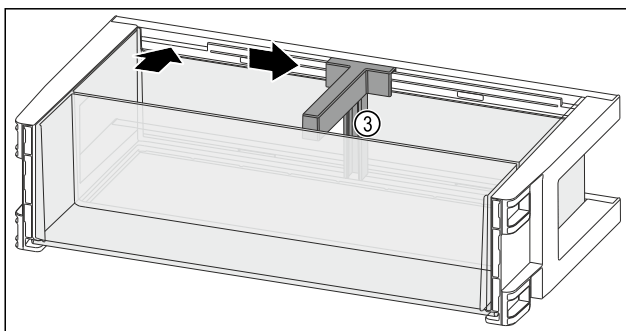

Fig. 139
- Insert the bottle holder Fig. 139 (3) in the recess.
- Push the bottle holder Fig. 139 (3) to the desired position to the side.